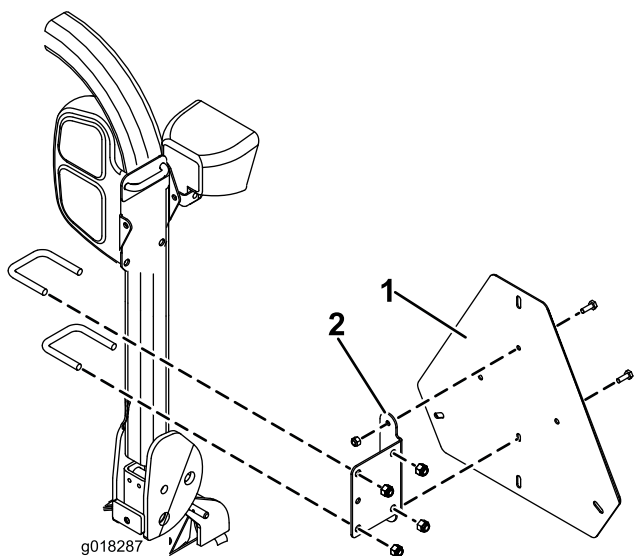

Figure 10
2. Loosely mount the SMV emblem bracket to the outside of the left ROPS post with 2 U-bolts and 2 locknuts (3/8–16) (Figure 10).